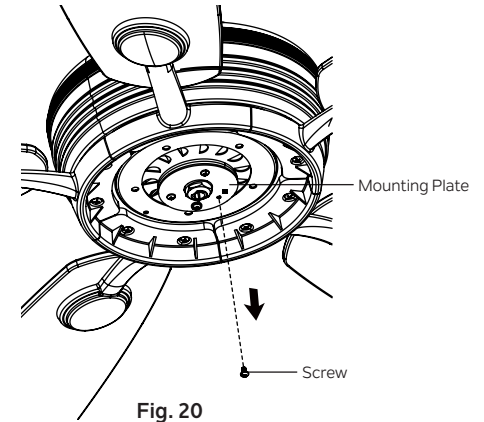

Fig. 20
**Step 1.** Remove the screw marked with a brown dot label on the mounting plate and keep for later use. Loosen the other two (do not remove).(Fig.20)